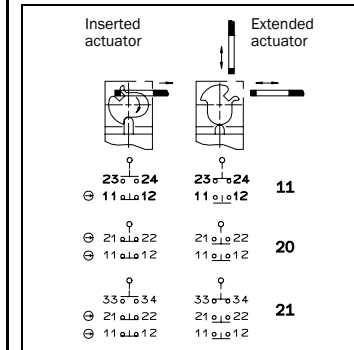

Fig. 5: Switching elements and switching functions for variants with M16 cable entry
- Contact assignments see Fig. 5.